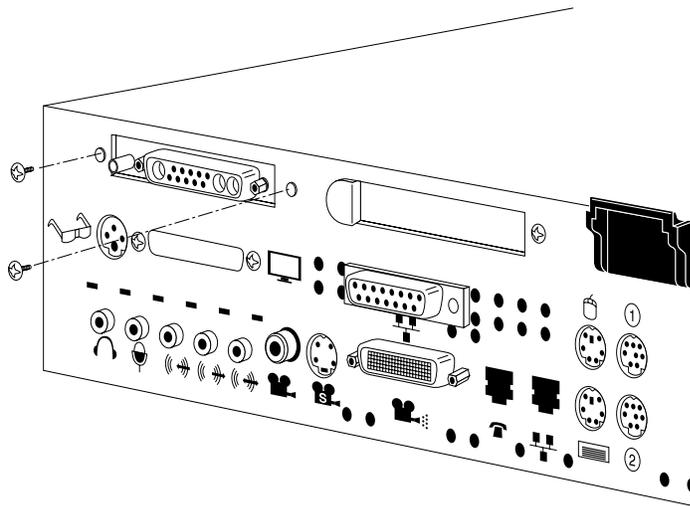

Figure 2-10 Securing the X Board to the Rear of the Workstation
- Using the Phillips screwdriver, insert and tighten the two Phillips screws in the locations shown in Figure 2-10.